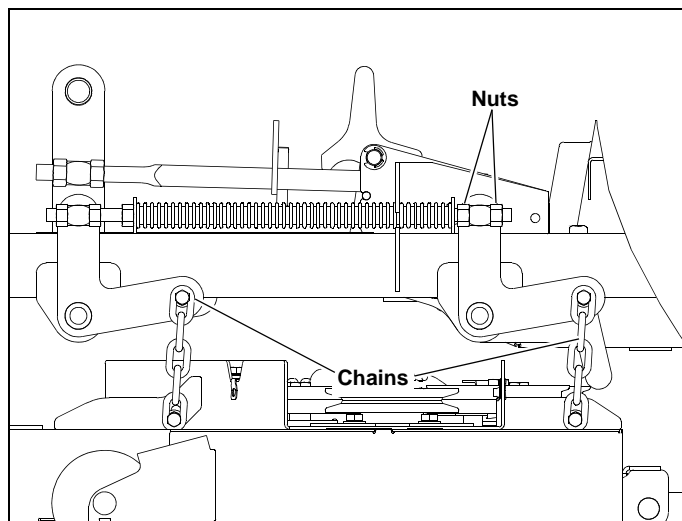

Figure 6-6
21. Tighten the appropriate nut until the chain just becomes tight, and carries most of the deck weight. Check by moving the block—it should move with a slight drag. Figure 6-6